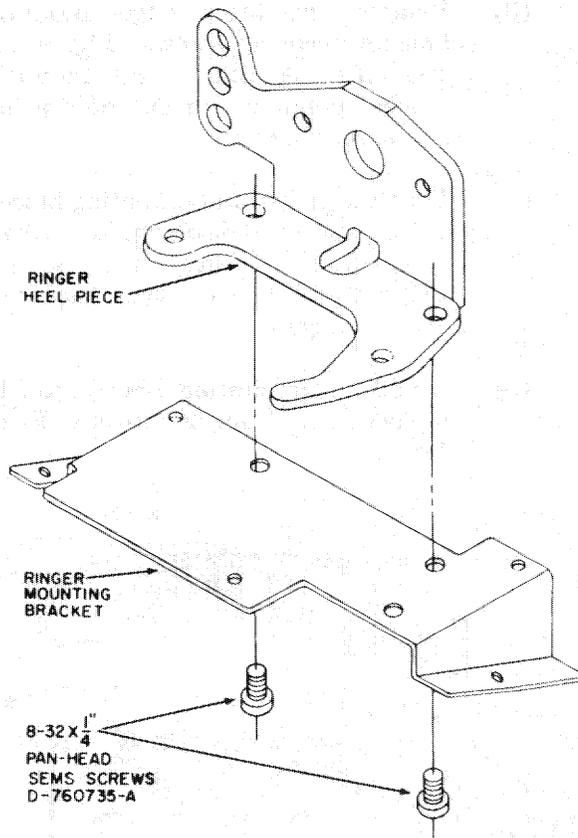

Figure 13. Attaching Ringer Mounting Bracket to Ringer.
- (1) Remove the telephone set housing as instructed in Paragraph 4.01.
- (2) Disconnect the ringer and ringer capacitor leads from the transmission unit or terminal strip terminals.
- (3) Remove the three ringer mounting bracket securing screws (Figure 13), and lift the ringer and mounting bracket combination out of the telephone set baseplate.
- (4) Turn the ringer and mounting bracket combination upside down. Remove the two ringer securing screws (Figure 13), and lift the mounting bracket off the old ringer.